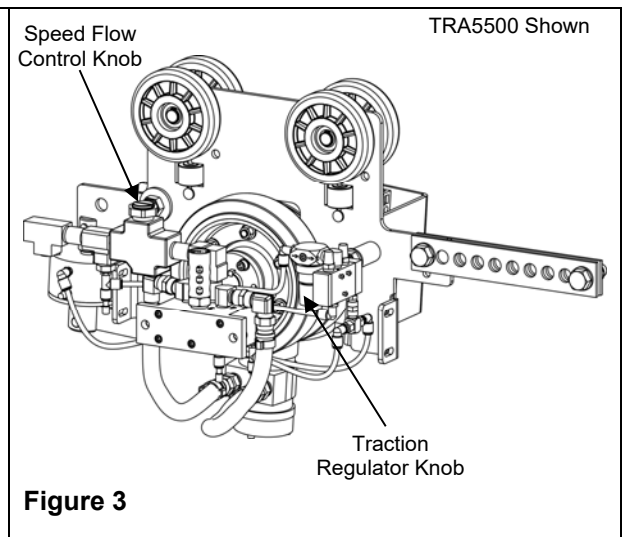

Figure 3
- Step 1. Turn the adjustment flow control knob (see Figure 3) clockwise until it stops.
- Step 1. Turn the adjustment regulator knob (see Figure 3) clockwise until it stops.